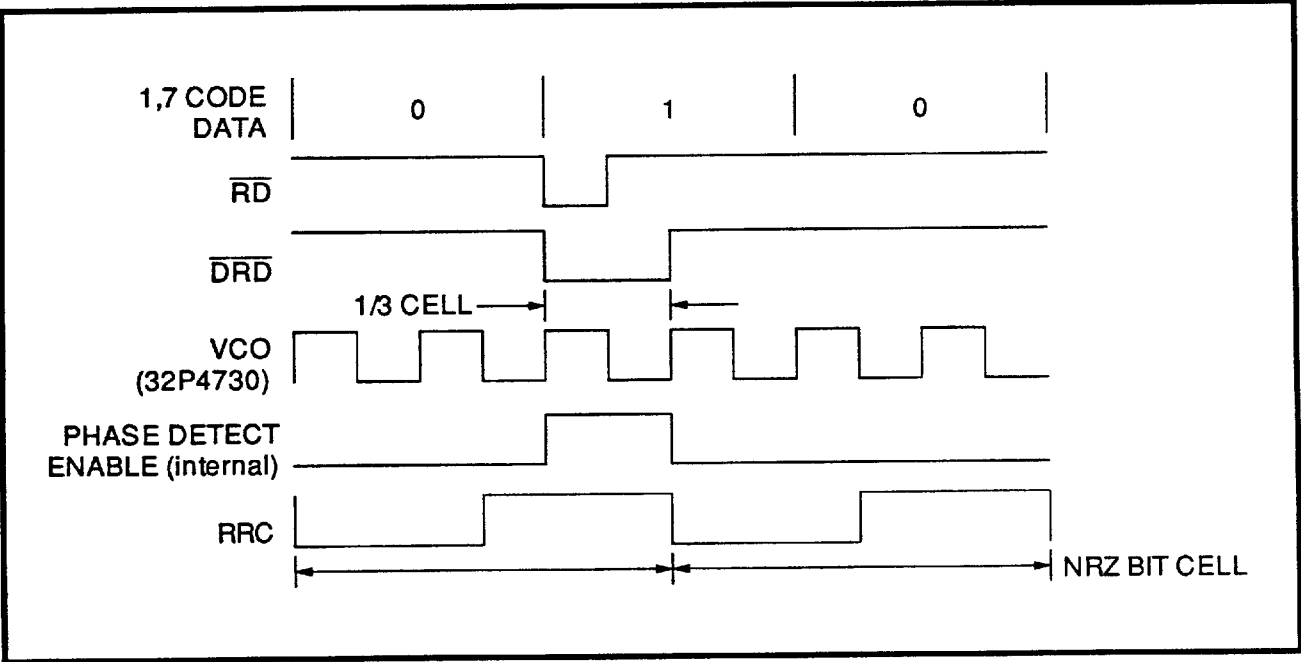

FIGURE 11: Data Synchronization Waveform
The data synchronizer utilizes a fully integrated fast acquisition PLL to accurately develop the decode window. Read gate (RG) initiates the PLL locking sequence and selects the PLL reference input; a high level (Read mode) selects the internal  $\overline{DRD}$  signal and a low level selects the reference clock. In the read mode the falling edge of  $\overline{DRD}$  enables the phase detector while the rising edge is phase compared to the rising edge of the VCO reference (VCOR). As depicted in Figure 11,  $\overline{DRD}$  is a 1/3 NRZ bit cell wide pulse whose leading edge is defined by the falling edge of  $\overline{RD}$ . A decode window is developed from the VCOR clock.